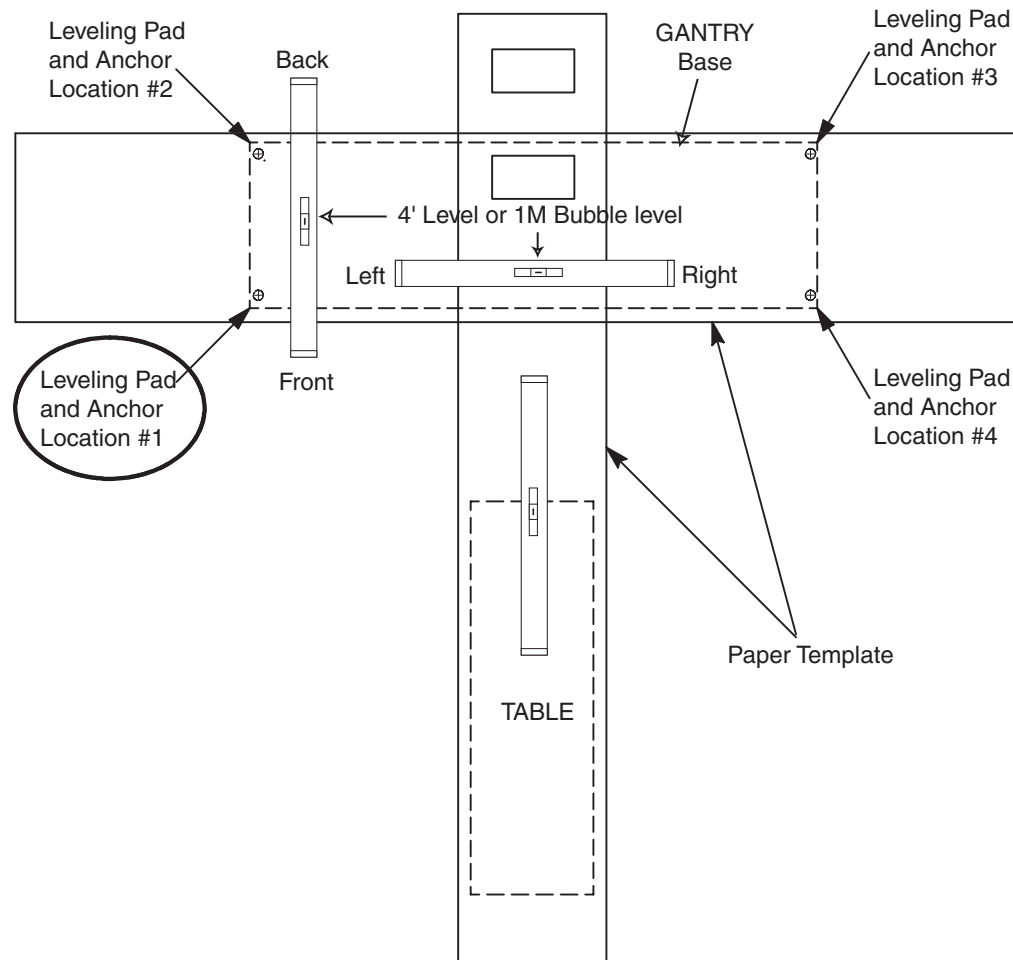

Figure 2-1 Hole Locations
- 4.) Check the level of the floor (See Figure 2-1) across the templates.